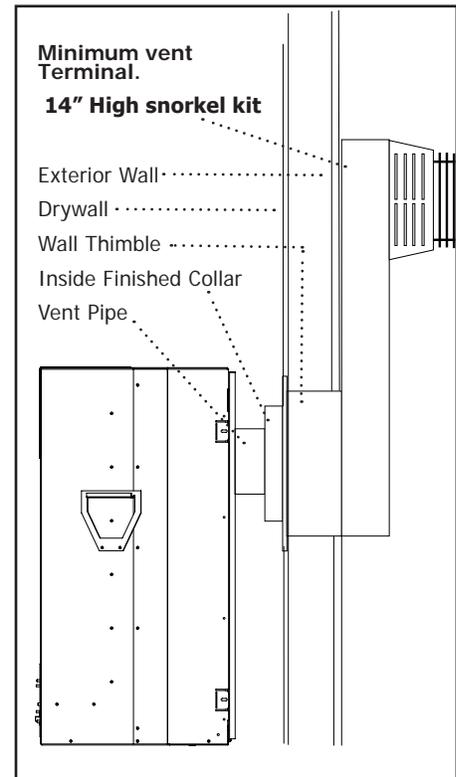

Figure 24. Possible Vent Configurations for Top Vent Only. Vertical and Horizontal Terminations
Figure 24 shows the range of venting options for **top vented configurations only** using either vertical or horizontal terminations; any layout that remains within the shaded area is acceptable. Having the fewest number of elbows is ideal as they tend to disrupt air movement. Using 45° elbows is preferable to using 90° elbows. Also, a shorter vent system will perform better than a longer one. The total length of horizontal vent pipe can not exceed 20 feet (6.1m) and the total vent length can not exceed 40ft (12.2m).
Exhaust Restrictors: Your Q2 fireplace is supplied with 2 different exhaust restrictors. Your venting configuration will determine which restrictor plate you will need to use. Look at the Fig. 24 on page 26 to determine which restrictor your installation will require.
Step 1. Determine which/if any restrictor will be required for your installation Fig.24 Page 26.